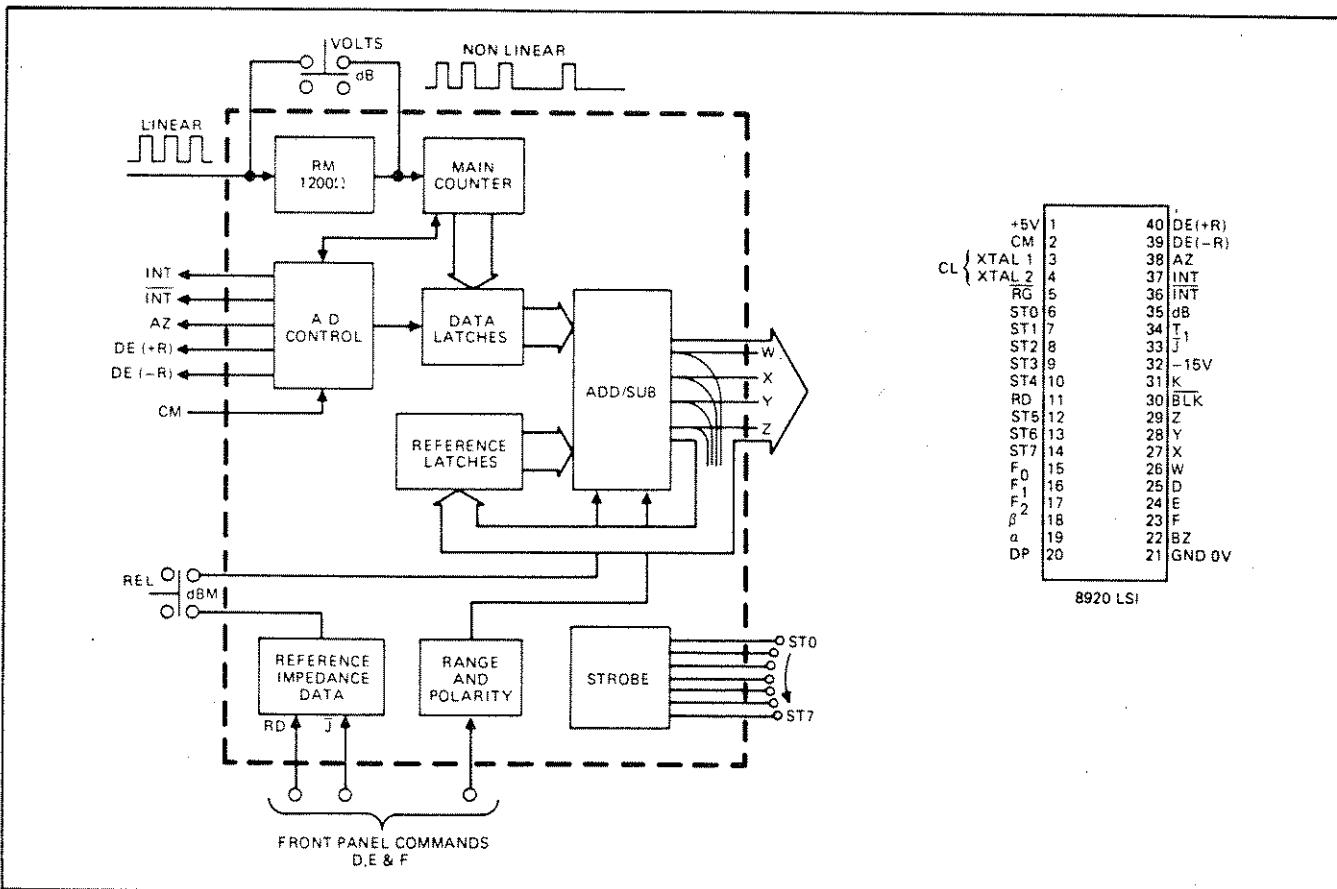

Figure 3-7. Controller Functions
Display and Annunciators will be described immediately after this section on the Controller. A summarized description of each input and output pin used on the Controller is give in Table 3-2 and shown in Figure 3-7.
3-32. To make a voltage measurement the Controller must linearly count clock pulses for a time determined by the A/D Converter. Referring to Figure 3-7, you can see that when the dB/VOLTS switch is placed in its up (out) position the rate multiplier (RM) will be shunted and the main counter will count the number of clock pulses exactly as they occur (linear). As soon as the integrator in the A/D Converter reaches the auto-zero point, CM will go high, commanding the main counter to stop counting and simultaneously shifting its count to the data latches. What is now held in the data latches is a count of clock pulses, in bcd format, that is proportional to the true rms value of the signal being measured. The bcd data is then shifted out of the controller, to a seven-segment decoder on four lines: W, X, Y and Z.
3-34. If the dB/VOLTS switch is in the dB position, a non-linear count of the clock pulses is enabled. The binary rate multiplier (RM) passes only a fraction of the clock pulses on to the Controller's main counter (see the illustrated input to the main counter on Figure 3-7). This count approximates the logarithmic curve of the dB scale and, like the VOLTS mode, is stored in the data latches.
3-38. Referring to Figure 3-7, let's assume that a 600 ohm reference impedance is selected and the instrument had previously made a relative measurement. Strobe zero
3-41. Referring the Figure 3-7, you can see that upon selection of the REL mode, the reference impedance data line will be disabled. However, to make a relative reference measurement the controller must use an initial reading, and to obtain an initial reading it must use a